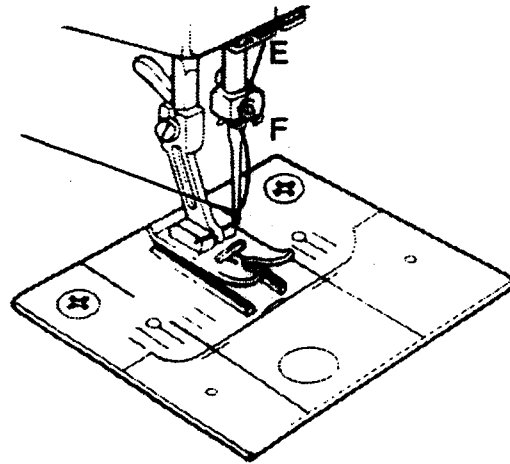

Fig. 3
3. Draw thread down into thread guides (E) and (F). Thread needle from front to back as shown in Fig. 3.